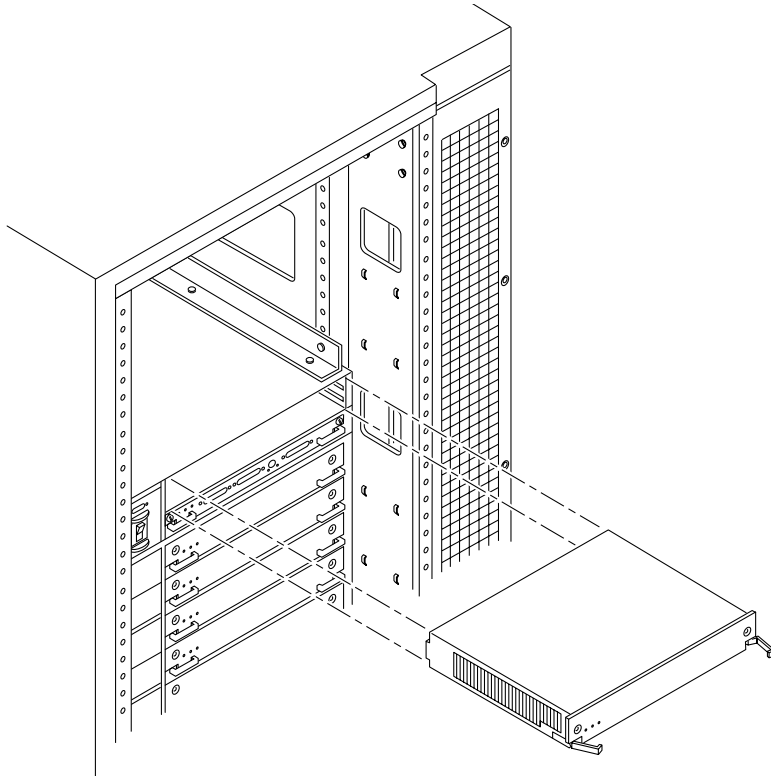
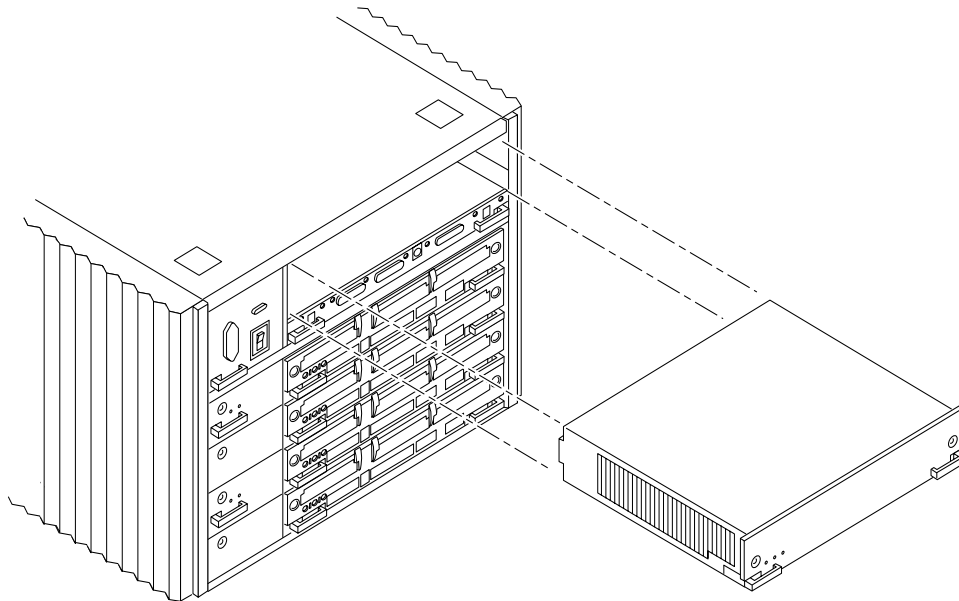

FIGURE 7-3 Replacing the Enterprise 6500/5500 PPS
FIGURE 7-4 Replacing the Enterprise 4500 PPS
4. Pull the ends of the extraction levers outward to release the power supply from the centerplane (FIGURE 7-3 for Enterprise 6500 or 5500 system, FIGURE 7-4 for Enterprise 4500 system).